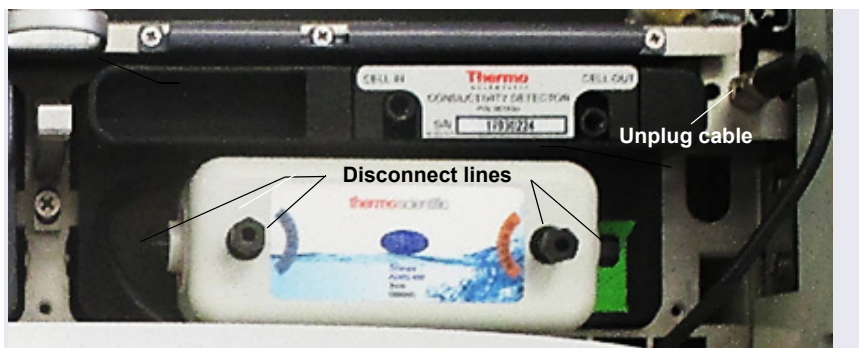

Figure 10-57. Disconnecting the Suppressor Liquid Lines and Cable
4. Disconnect the four liquid lines from the suppressor (see Figure 10-57).
7. Orient the new suppressor with the **ELUENT IN** and **REGEN OUT** ports on the bottom (see Figure 10-57). Press the suppressor against the back of the detector and then slide it to the right to secure it onto the mounting tabs. Pull out slightly on the center of the suppressor to verify that it is securely fastened.